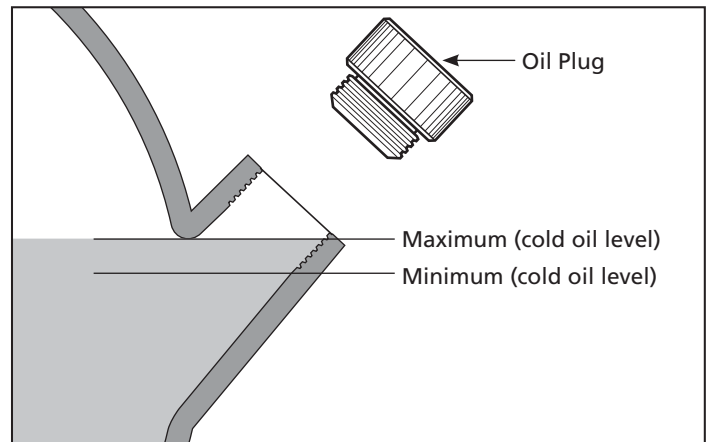

Figure 7 - Oil Level
**CAUTION** THIS UNIT CONTAINS OIL. Before operating compressor, check oil level (see Figure 7).
**OIL LEVEL CHECK** (See Figure 7)
5. If necessary, top off oil of the same oil type and the same brand up to the maximum level (see Figure 7 and Lubrication section).
1. Check oil level (See Figure 7).